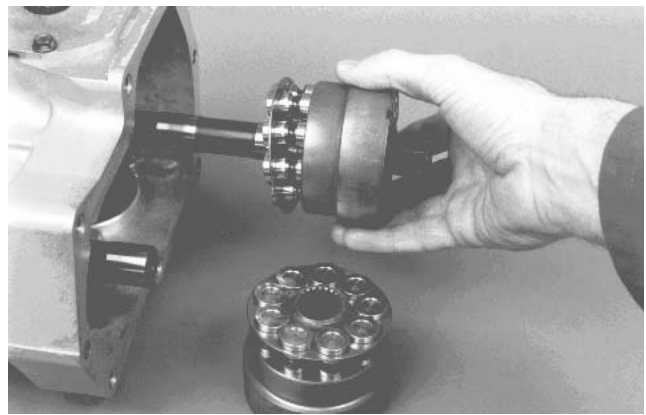

Figure 43
7. Lay transmission on its side and remove motor cylinder block assembly from the housing. Remove pump cylinder block assembly from pump shaft (Fig. 43).